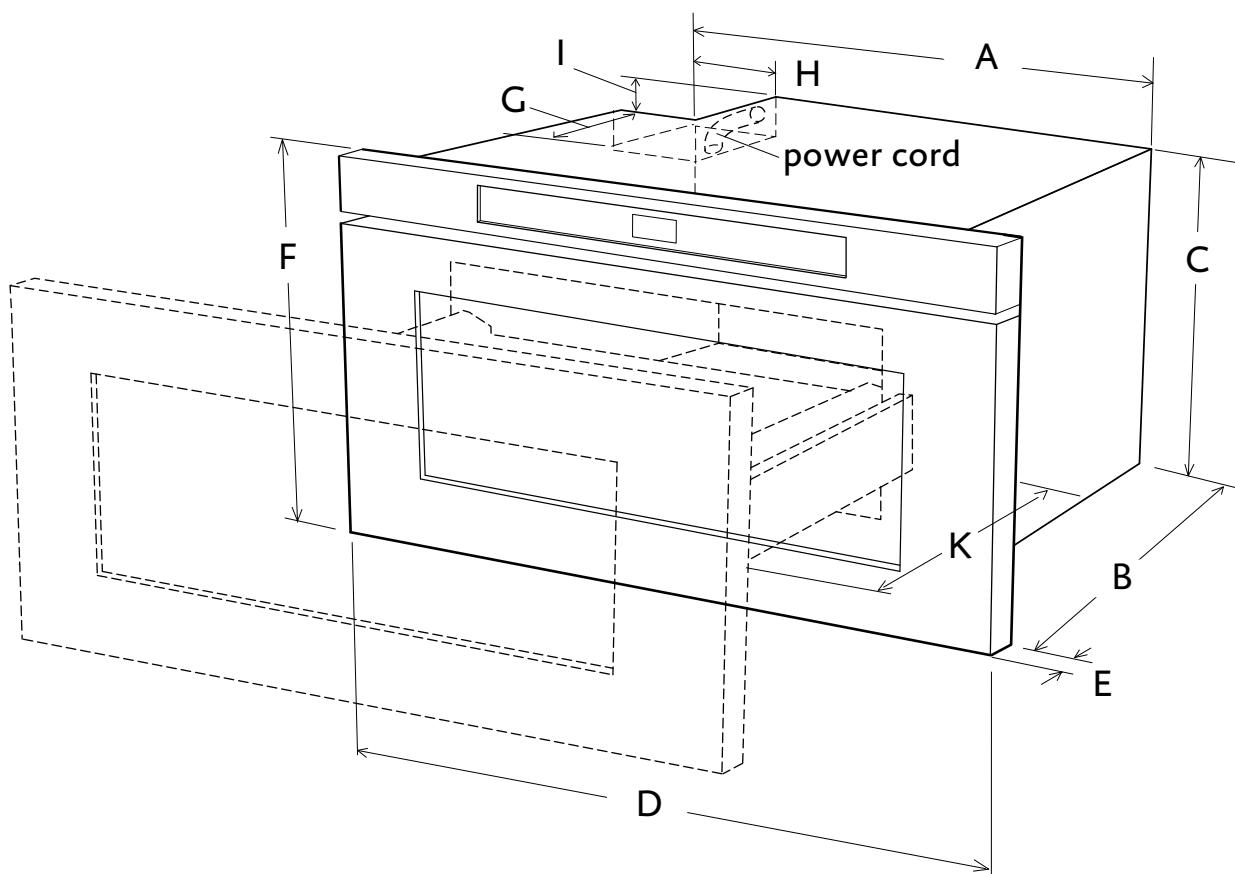
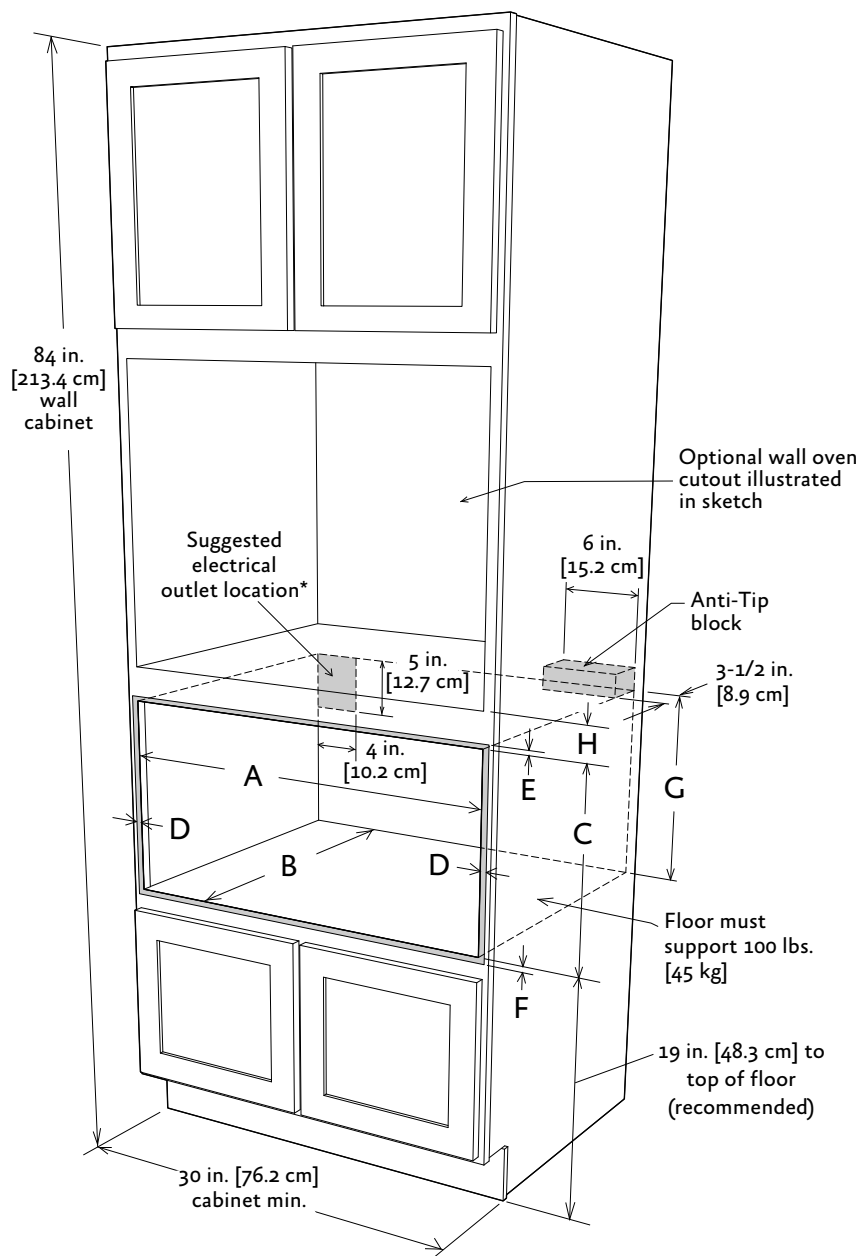
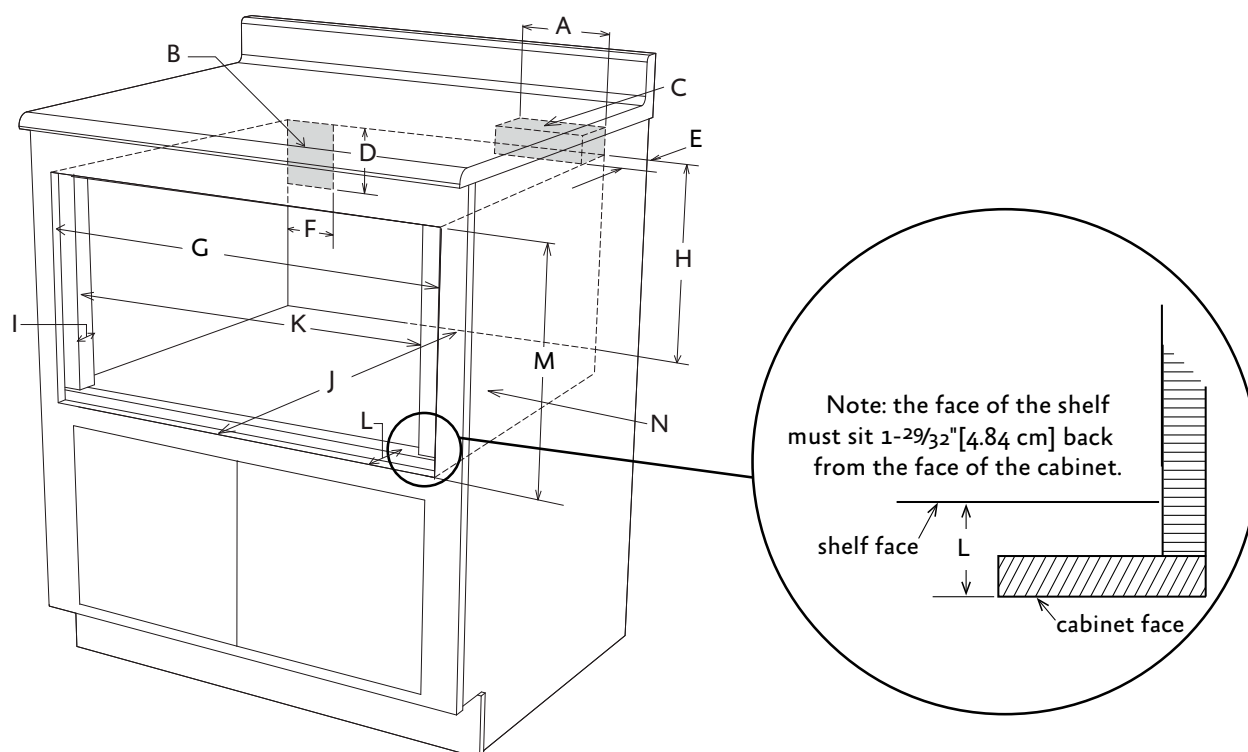

Figure 1. Microwave dimensions
Figure 2. Standard mounting under oven
Figure 4. Mounting flush under counter
⚠WARNING Do not install drawer in any combustible cabinetry unless it meets the stated clearances and dimensions on the following pages. See Figure 1, 2 and 3.
- Figure 1 shows dimensions of the unit. Figures 2 - 3 provide minimum clearance for standard (non-flush) installation. Figures 4 - 9 show clearances and additional information for flush mount installation. Suggested electrical outlet location is shown in figures 2 - 6.¹
See Figures 1 - 6 for required clearances and dimensions when planning the drawer's location.